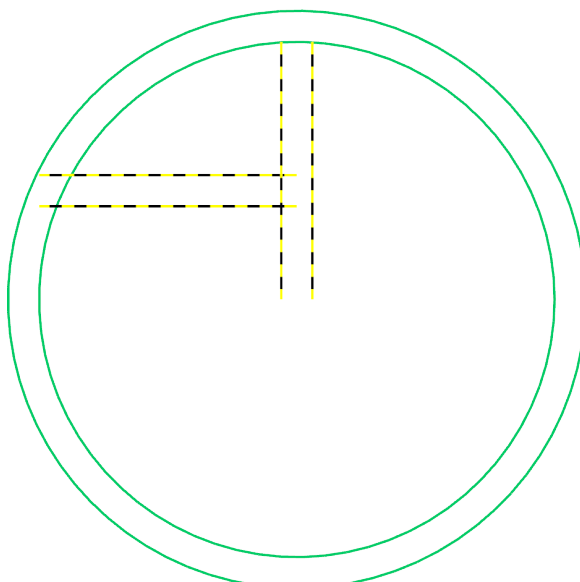

Fig. 14
Step 2. Click the **4 lines** and click **End Selection**  (**ENTER**), **Fig. 14**.